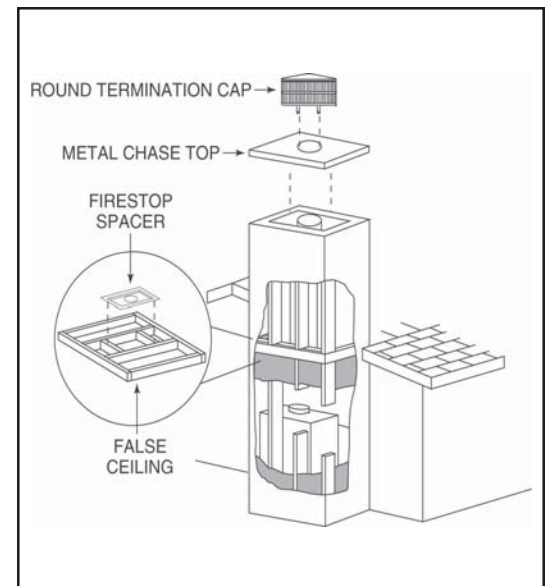

Figure 21 - Chase Assembly
- In cold climates, the walls of the chase should be insulated to the level of the false ceiling as shown in Figure 21. This will help reduce heat loss from the home around the fireplace.